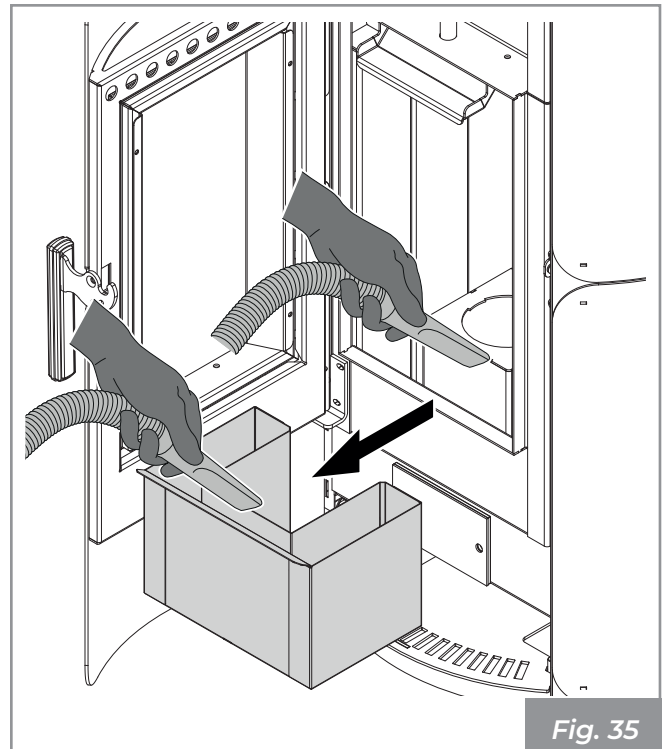

Fig. 35
If necessary, remove the ash drawer and empty it, making sure to remove any residue in the compartment where it is contained (Fig. 35).
- Remove the ash drawer (**Fig. 35**).